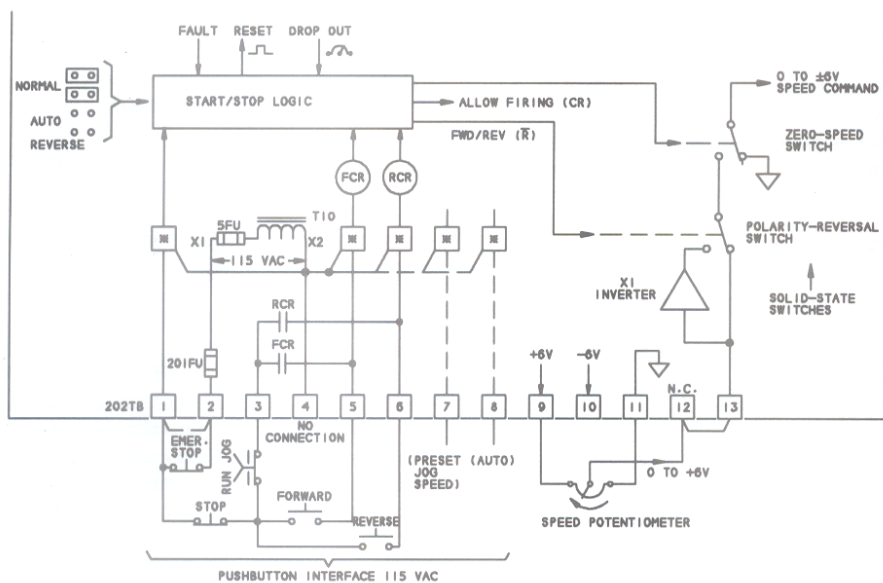
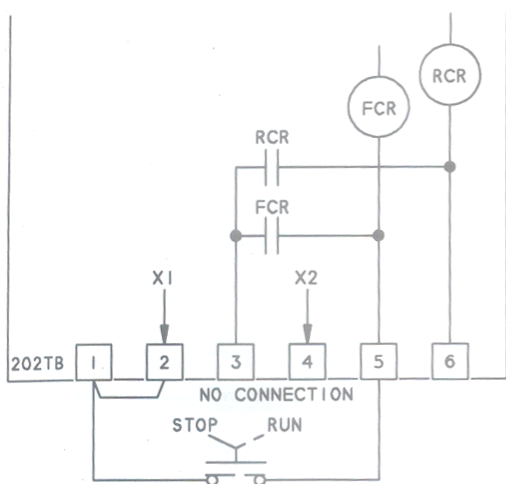

Figure 2.1
Figure 2.2
Forward and Reverse rotation is commanded by pushbuttons. Magnitude of speed (but not direction of rotation) is set by the speed potentiometer. Figure 2.1 and Figure I of External Wiring Diagram A2399-007-EW in the Appendix illustrate this method.
Any combination of Types 1 and 2 except implemented with selector switches rather than pushbuttons. Figures 2.2 and 2.3 illustrate selector switch control.
Figure 2.1, following, is a block-diagram representation of PRD12B pushbutton logic used for Type 1 control. Note that an internal control transformer (T10) furnishes the 115 VAC excitation voltage to the pushbutton operators.
Figure 2.1 illustrates a familiar pushbutton arrangement and the internal circuitry to which the pushbuttons connect. Before proceeding with a detailed explanation, however, it is useful to note that the PRD12B controls forward and reverse operation internally by a solid-state polarity-reversing switch shown in simplified form above Terminal 13 in Figure 2.1. Similarly, stopping is performed by the internal solid-state Zero-Speed switch shown in simplified form, which simply reduces the speed command voltage within the control unit to zero. Note that both switches are in the wiper circuit of the speed potentiometer. Thus the primary internal function of the Start-Stop logic is to control these two switches. The switches in turn manipulate the input speed command to achieve starting, stopping and reversal. The other signals shown are supporting functions.
The two relays shown, “FCR” and “RCR” exist solely for the purpose of providing a contact closure to “seal” around the “FORWARD” and “REVERSE” pushbuttons shown in Figure 2.1 thereby latching them in the manner well known to electricians who install this type of equipment. The Start-Stop logic senses relay coil current to detect status of the two relays thereby generating the signals that control the Start-Stop logic. Although not shown in Figure 2.1, circuitry in the Start-Stop logic prevents “FCR” and “RCR” from activating simultaneously in the event that the “FORWARD” and “REVERSE” pushbuttons are held activated by an operator; only one relay will activate. The blocks marked * in Figure 2.1 are optically-isolated driver boards that accept a 115 VAC input signal from the pushbuttons and cause it to activate the 12 volt DC coils of “FCR” or “RCR” through an optically-coupled link.
The following describes what happens in response to various events as well as the purpose of the signals in Figure 2.1:
are described in Section 2.3. Activating either the “FORWARD” or the “REVERSE” pushbutton shown in Figure 2.1 will generate the “RESET” pulse shown and will restart the motor provided the fault no longer exists. Other methods of fault reset are given in (b), following.
c) Activating the “STOP” pushbutton in the circuit of Figure 2.1 unlatches relay “FCR” or “RCR” in the conventional manner. This causes the Zero-Speed switch to activate thereby reducing the speed command voltage to zero. The motor will decelerate to nearly zero speed. (If desired, a same-direction restart can be done from the pushbuttons at any time during deceleration to abort the stop sequence). As zero speed is approached, a “DROP OUT” circuit (not shown) causes the “ALLOW FIRING” signal (labeled “CR” on the schematics) to go away thereby killing SCR firing and causing a brief motor coast to zero speed. The motor speed at which drop-out occurs is adjustable by the “DROP OUT” potentiometer on circuit board E1546. A contact on an optional “RUN” relay (not shown) may be used to set a mechanical brake via an external contactor if desired. The “RUN” relay releases at drop out.
d) Activating the “REVERSE” pushbutton sets the polarity-reversal switch shown in Figure 2.1 to the inverting position. This causes the 0 to +6v signal on the wiper of the speed potentiometer to be transmitted as a negative speed command. Since direction of motor rotation is controlled by the polarity of the speed command signal in the PRD12B, the motor will rotate in the reverse direction. The initial status of this switch is random when power is turned on. If the “AUTO-REVERSE” jumpers are set to the “AUTO” position, motor reversal may be commanded at any time from the pushbuttons. If these jumpers are set to the “NORMAL” position, a stop must be executed before a reversal is possible. (See Sections 2.2, 2.6.4, and 9.1).
e) Activating the “EMERGENCY STOP” pushbutton in Figure 2.1 unlatches relay “FCR” or “RCR” in the conventional manner. Additionally, the momentary removal of 115 VAC from 202TB Lug 1, acting through the optically-isolated driver board (*), causes a latch to be set in the Start-Stop logic. This in turn causes the “ALLOW FIRING” signal shown to go away; the motor will coast to a stop (this signal is called “CR” on the schematics). A reset pulse generated as described in (b) resets the latch and allows restarting (simply activating one of the directional pushbuttons will do it). It is important to use “EMERGENCY STOP” in conjunction with a fail-safe mechanical brake in applications such as hoists in which an overhauling load might overload the control and prevent a normal stop. A contact on the optional “RUN” relay, or an auxiliary contact on the optional contactor can be used to operate the mechanical brake through an external contactor. It is also good practice to include “EMERGENCY STOP” at any time the optional acceleration unit is included, so that
Figures 2.2 and 2.3 illustrate the use of selector switches (in lieu of the pushbutton control utilized in Figure 2.1) to achieve Type 3 control as previously defined. The “AUTO REVERSE” option is not applicable with selector-switch directional control of the types shown in these two figures. When selector switches are utilized, the procedure for restarting after a fault is to move the selector to the “STOP” position, and then to return it to its original position. This will generate the necessary “RESET” pulse.
The “Excess VA Available” and Excess Inrush VA Available” in the table is available for customer use at 202TB Lugs 2 and 4 as shown in Figure 2.1. Any loads placed on the FCR and RCR relay contacts shown in Figure 2.1 must be limited to 22 VA with a maximum 300VA inrush. Use the contacts of the optional “RUN” relay to drive larger loads. On Size C and larger units, the 115 VAC is also made available at Terminal Block 4TB. 4TB thus serves as a second point at which excess VA capacity may be accessed by the user. Typically this second access point is used for driving enclosure fans, the starter for a motor cooling blower or a contactor for energizing a holding brake. Use an auxiliary contact on the PRD12B contactor to activate the added motor starter or contactor coil for the latter two applications. Use R-C type transient suppressors across the starter or contactor coils. Generally speaking, a size 1 or size 2 motor starter may be driven (check the manufacturer’s coil specifications for sealed VA and inrush VA).
The user need not consider the number of pushbuttons or other operators in applications such as Figure 2.1 in that the VA used by the drivers indicated by the asterisk are included in the internal VA consumption of the PRD12B. If lighted operators are used, however, both the inrush and the steady-state consumption of the bulbs must be considered as user loads. The inrush of an incandescent indicator is about
Refer to Figure 2.1. The RUN-JOG selector opens the latch path to 202TB lug 3 thereby requiring that a particular pushbutton be held activated for the motor to run. Jogging is accomplished at the speed set on the speed potentiometer. If the PRD12B is equipped with Option J2, jogging is accomplished at a separately-adjustable preset jog speed as described in Section 2.6.5 herein. The E1547 driver board described in that section is represented by the block connected to terminal 7 and marked (*) in Figure 2.1. The required external connections as well as a portion of the internal connections are shown on the External Wiring Diagram in the Appendix of this manual (Drawing A2399-007-EW, Figure I, Sheet 1). Technically, operation of the J2 option is as follows:
The Lug 12 to Lug 13 jumper on terminal block 202TB is omitted and the speed pot wiper voltage is routed from Lug 12 (which is a tie point with no connections to circuit board E1546) through the white wire shown to the normally closed contact of a relay on the JOG 2 option board. The JOG potentiometer wiper is connected to the normally open relay contact. The common wiper of the relay selects one or the other of these signals and routes it through a ribbon cable to connector J202 and through a circuit board trace on board E1546 to Lug 13 of 202TB. As is shown in Figure 2.1, the signal on Lug 13 is routed through the polarity-reversal switch and the zero-speed switch into the speed-command channel. Thus when the JOG2 option is installed no external connections should be made to Lug 13 of 202TB. All connections to Lug 13 are made internally. Operation of this option is further described in Section 2.6.5 herein. Note that the E1547 driver board (shown as * in Figure 2.1) is not furnished except when Option J2 is added. The Lug 7 channel is not operative until this board is plugged in.
A 115 VAC signal applied to Terminal 8 in Figure 2.1 is used to energize an AUTO relay on certain option boards. The internal path from Terminal 8 is not activated until the driver board marked (*) in Figure 2.1 is installed. This board is installed when those options which normally use an externally-connected MANUAL-AUTO selector switch are added.